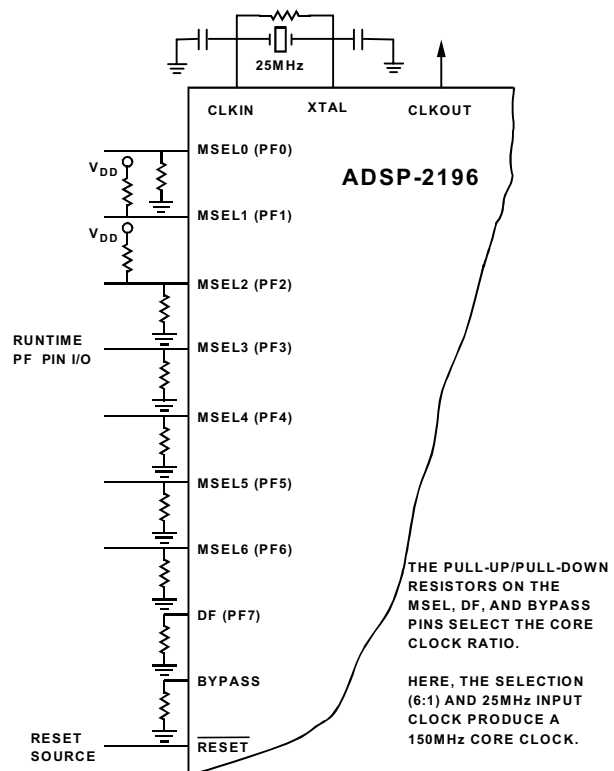

Figure 6. External Crystal Connections
The ADSP-2196 can be clocked by a crystal oscillator or a buffered, shaped clock derived from an external clock oscillator. If a crystal oscillator is used, the crystal should be connected across the CLKIN and XTAL pins, with two capacitors connected as shown in Figure 6. Capacitor values are dependent on crystal type and should be specified by the crystal manufacturer. A parallel-resonant, fundamental frequency, microprocessor-grade crystal should be used for this configuration.
The DSP provides a user-programmable  $1\times$  to  $32\times$  multiplication of the input clock, including some fractional values, to support 128 external to internal (DSP core) clock ratios. The MSEL6–0, BYPASS, and DF pins decide the PLL multiplication factor at reset. At runtime, the multiplication factor can be controlled in software. To support input clocks greater than 100 MHz, the PLL uses an additional input: the Divide Frequency (DF) pin. If the input clock is greater than 100 MHz, DF must be high. If the input clock is less than 100 MHz, DF must be low. The combination of pullup and pull-down resistors in Figure 6 set up a core clock ratio of 6:1, which produces a 150 MHz core clock from the 25 MHz input. For other clock multiplier settings, see the *ADSP-219x/2191 DSP Hardware Reference*.